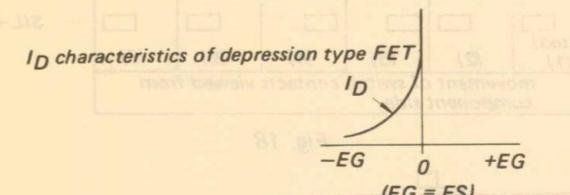

Fig. 13
- Q403 is a 2SK42 N-channel depression type FET. As shown in Fig. 13, EG = ES when gate and source are connected, resulting in the flow of a constant current of less than 5mA.